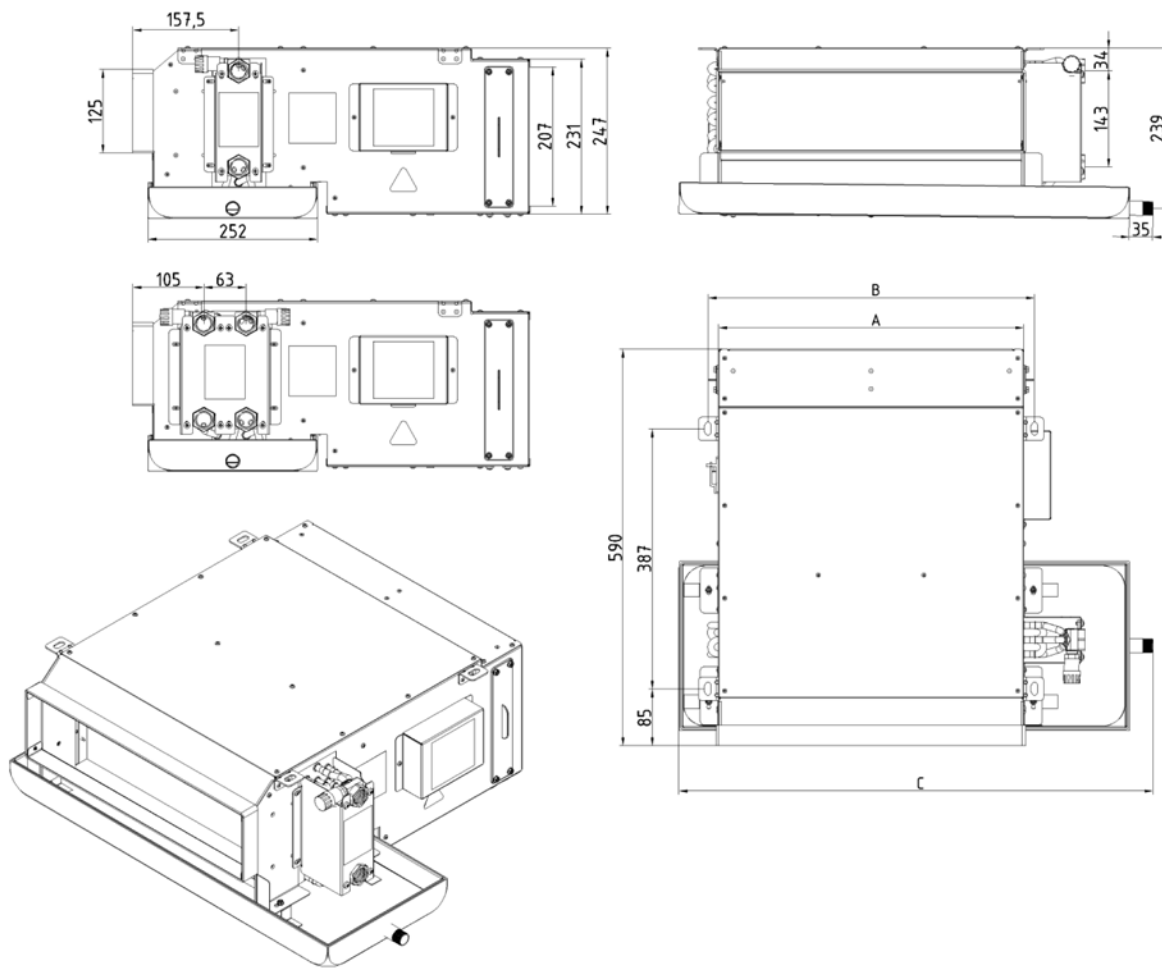

Figure 1
- Have adequate space for installation and maintenance. Please refer to the unit size (figure 1) and the correction diagram. (Figure 2: Gaps around the unit show the required minimum space.)